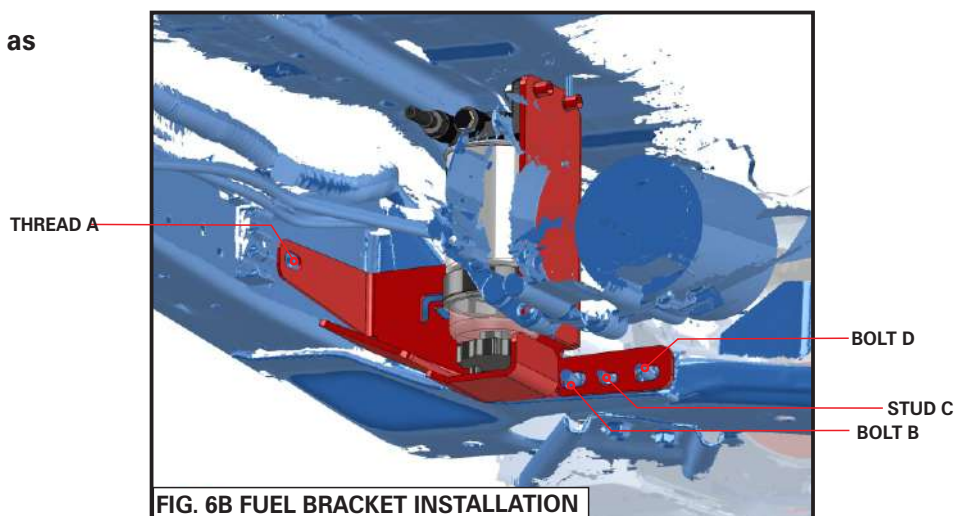

FIG. 6B FUEL BRACKET INSTALLATION
- Locate FB9805FC bracket to vehicle as shown in FIG. 6B